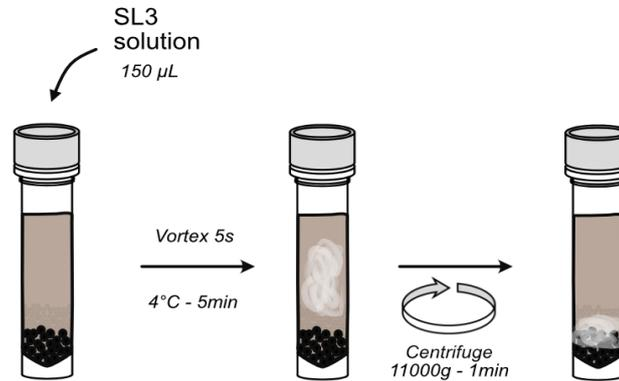

Figure 6. Precipitate contaminants.
3. Precipitate contaminants (Figure 6):